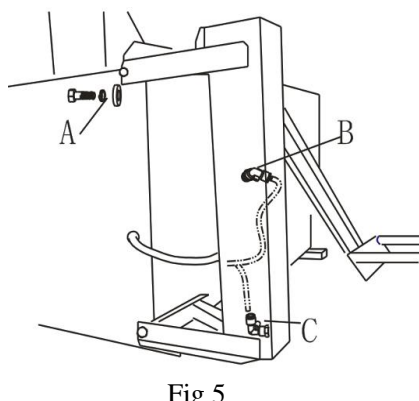

Fig 5
3. Fixing the tire lifting device on the side of machine body with bolt set A, shown as Fig 5; after fixing all the bolts, connecting the air hose B&C.